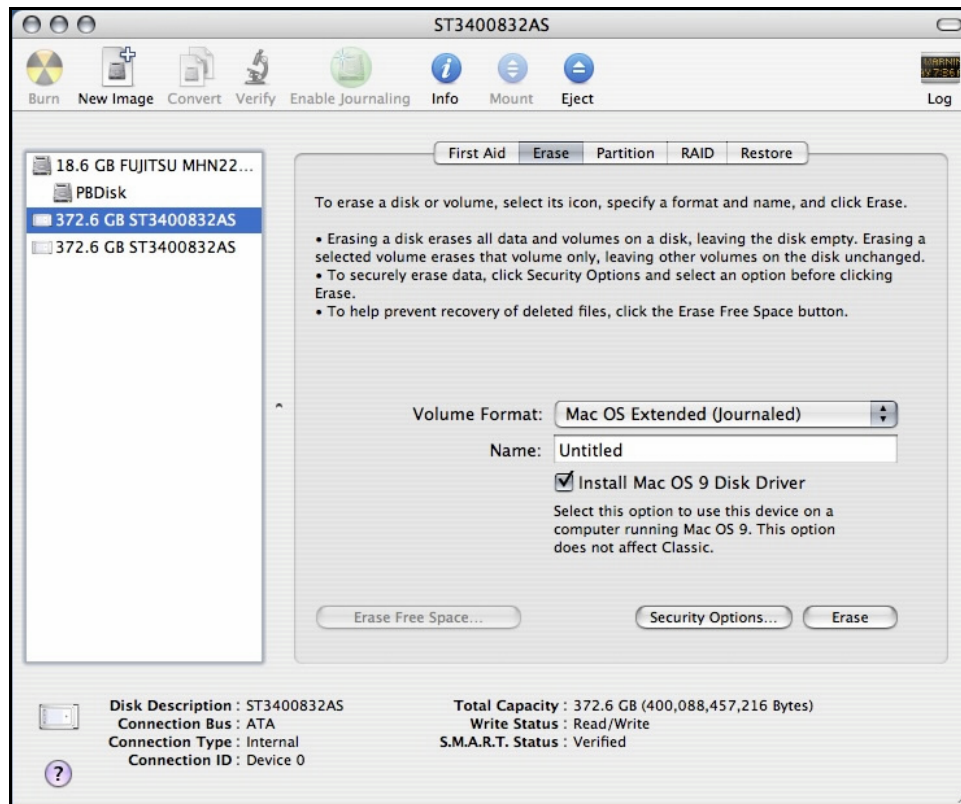

Figure 14: Selecting the *Erase* tab in Apple's *Disk Utility*
4. After carefully selecting the hard drive you wish to format, select the *Erase* tab in Apple's *Disk Utility* (see Figure 14).